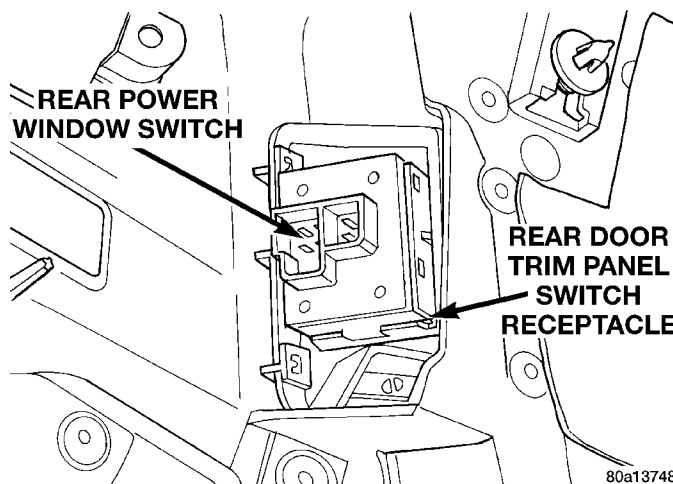

Fig. 5 Rear Door Power Window Switch Remove/Install
(6) Pull the rear door trim panel away from the inner door panel far enough to access and unplug the wire harness connector from the power window switch.
(7) Unsnap the power window switch from the receptacle on the back side of the rear door trim panel (Fig. 5).
(8) Reverse the removal procedures to install. Tighten the trim panel mounting screws to 1.3 N·m (12 in. lbs.).